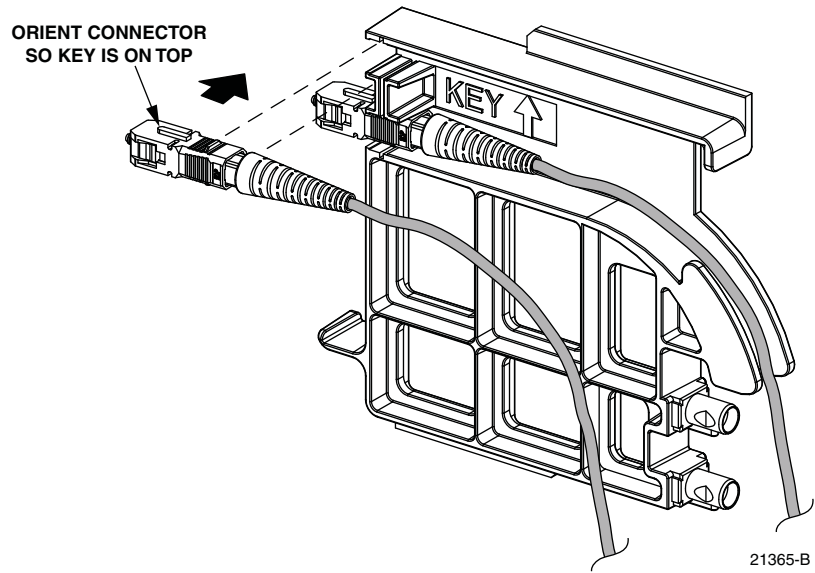

Figure 53. Installing Patch Cord Connector in Dust Cap Assembly
8. Install the patch cord connector in the dust cap assembly as shown in Figure 53.